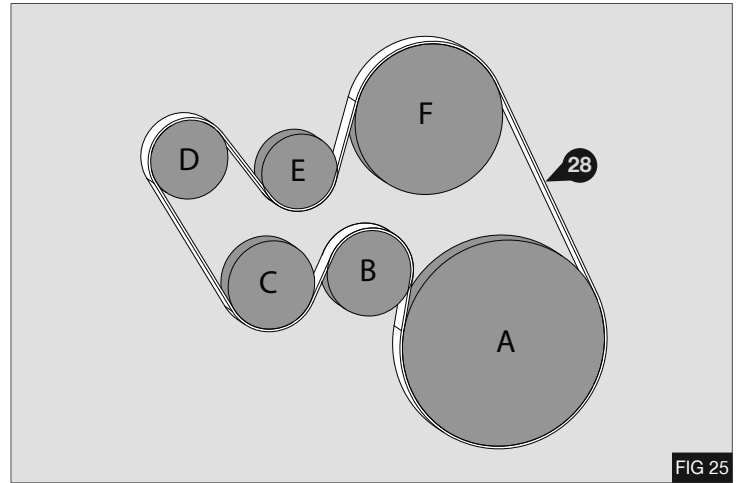

FIG 25
- Fit the supplied drive belt (28), and remove locking pin from auto tensioner (N) - Fig 25